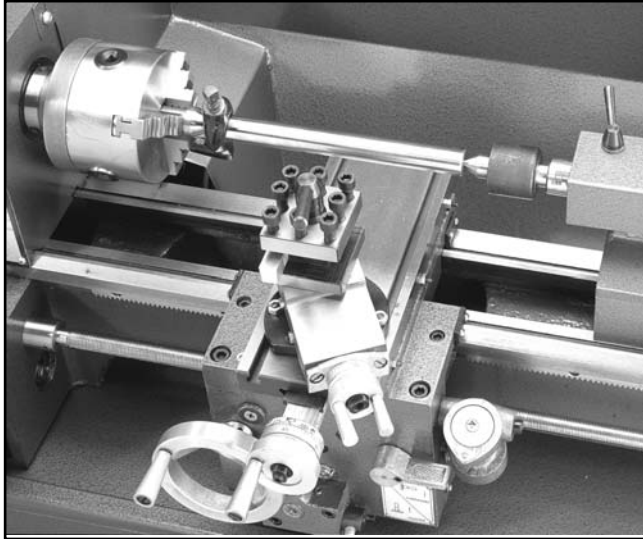

Figure 30. Bar stock mounted on centers.
4. Attach a lathe dog to the bar stock and mount it between the centers. **Figure 30**